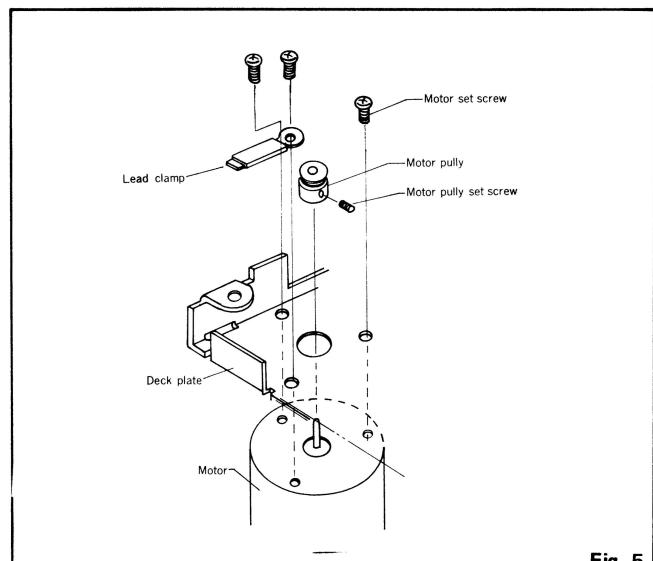

Fig. 5
5. Method of replacing motor (See Fig.5)